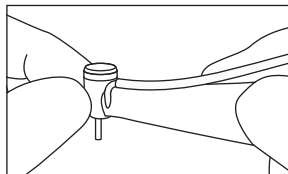

Fig. 10
- 5) After the handpiece rotation has completely stopped, touch the handpiece head to confirm the head is NOT heating abnormally (Fig. 10).